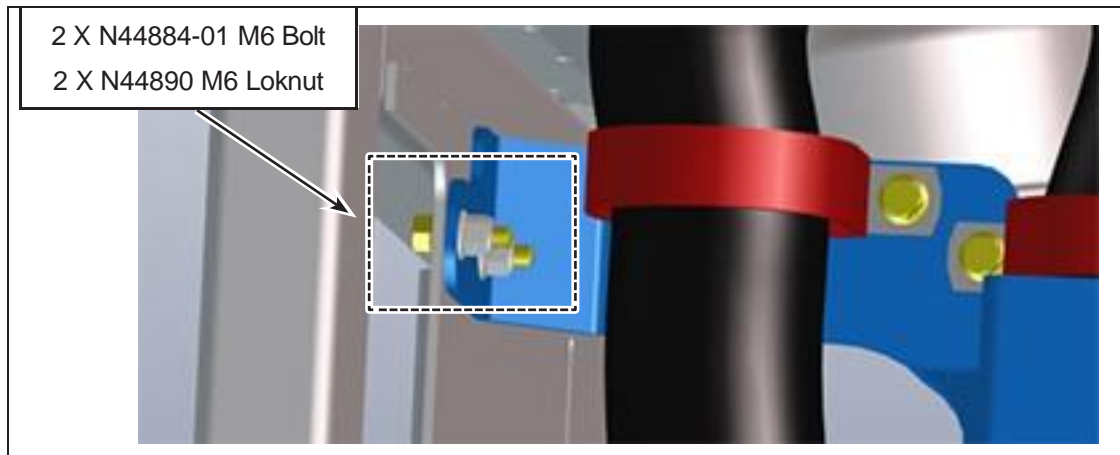

Figure 4 - Air Hose Intake Bracket Affix to the Frame
- 1.8. Affix the air hose intake bracket N92620 to the frame using two N44884-01 M6 bolts and two N44890 M6 nylon locknut. See Figure 4.